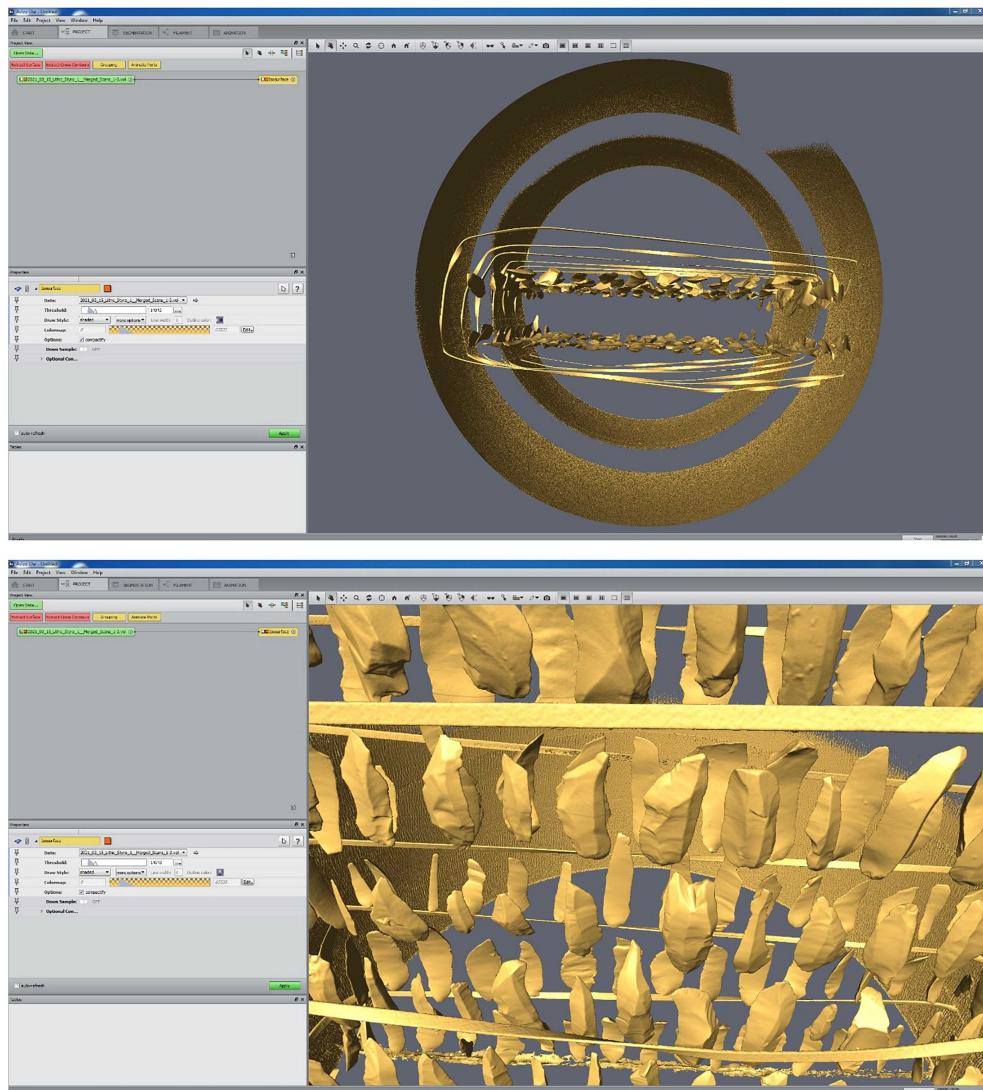

Fig. 13 (top) and 14 (bottom): Isosurface with clear separation between the lithic artefacts and other materials (e.g., rubber bands and Styrofoam).
21.4 When completed, inspect the resulting isosurface model (Fig. 13 and 14) and check for
- 21.7 When completed, again inspect the resulting isosurface model (Fig. 13 and 14) and check surface inconstancies (see **Step 21.5**).